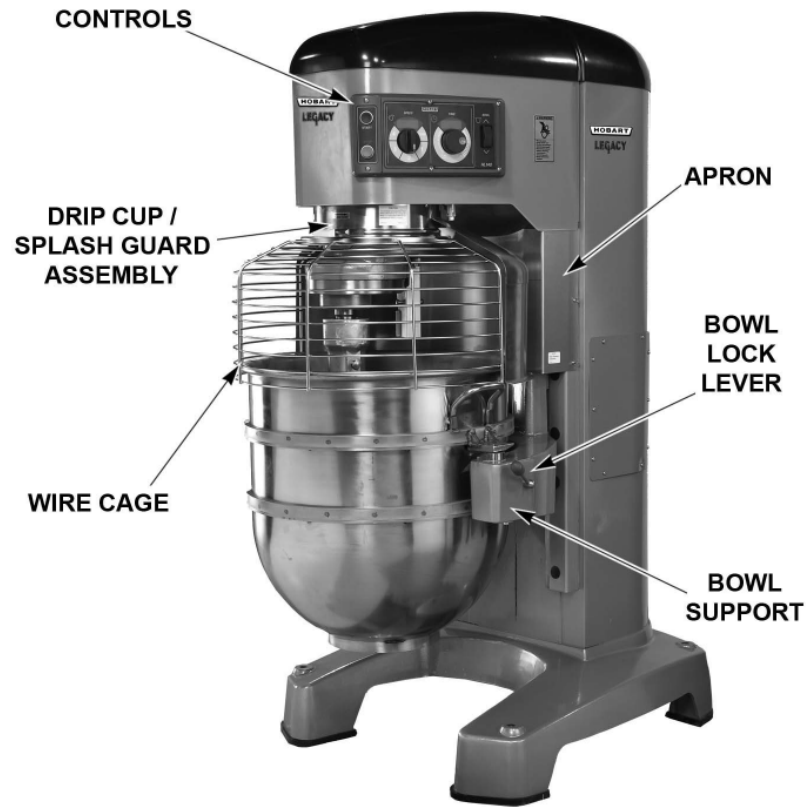

Fig. 1.
- Unscrew the dipstick using a 3/8" hexagon Allen key and check the oil level. The oil level must be between the two grooves on the dipstick. Refer to Fig. 1 for the dip stick position.
The Legacy™ mixer is equipped with SmartTimer™ controls and a power bowl lift. Other operating parts (Fig.1, page 8) and their functions are described throughout the Operation section.